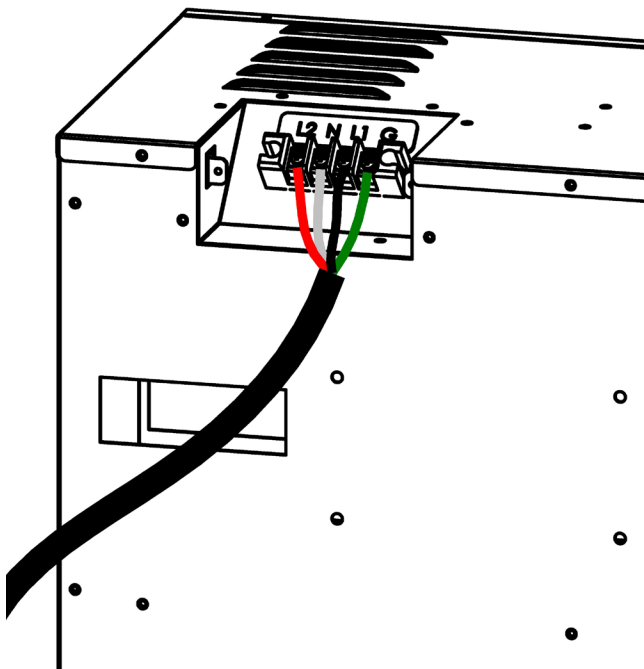

Fig. 6-2
- From the 4-wire, 240 volt power supply wire, connect the green/bare copper wire to ground (**G**), the white wire to neutral (**N**), the black wire to Line1 (**L1**), and the red wire to Line2 (**L2**) (Fig. 6-2).